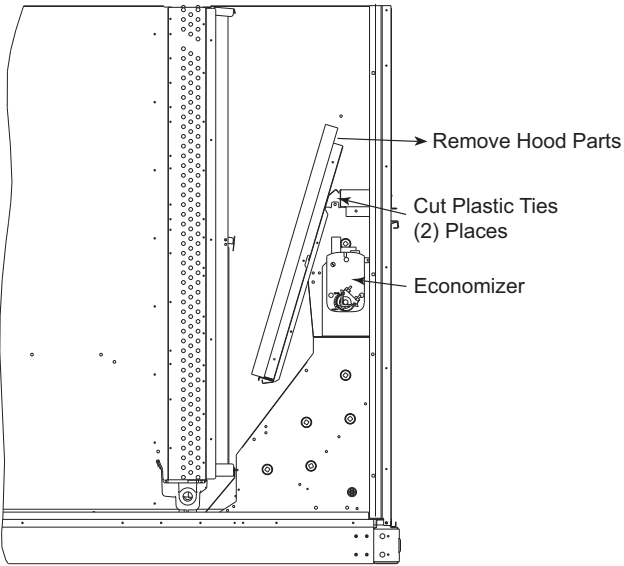

Fig. 9 - Economizer Wiring
3. Locate and cut the (2) plastic tie-wraps, being careful to not damage any wiring. (See Fig. 9.)